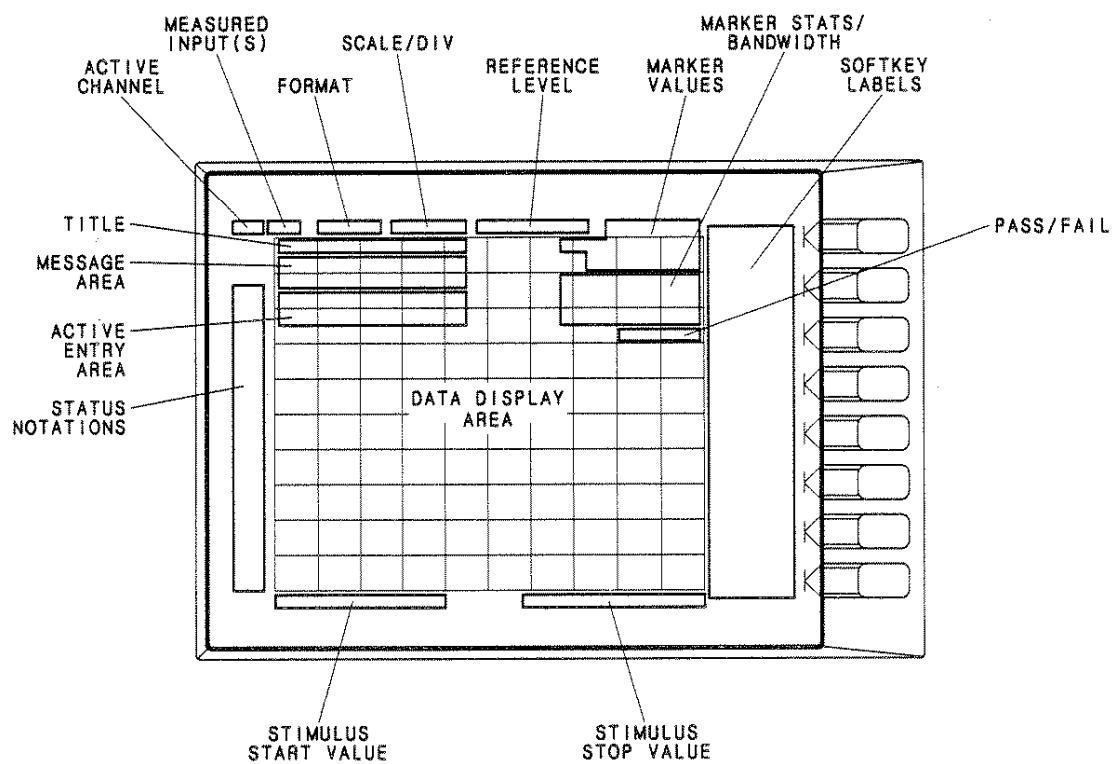

Figure 2-2. CRT Display (Single Channel, Cartesian Format)
2. CRT display. This is used for display of data traces, measurement annotation, softkey labels, and other information. The display is divided into specific information areas, illustrated in Figure 2-2.
The CRT displays the grid on which the measurement data is plotted, the currently selected measurement traces, and other information describing the measurement. Figure 2-2 illustrates the locations of the different CRT information labels, described below.
In addition to the full-screen display shown in Figure 2-2, a split display is available, as described under [DISPLAY] Key, *Display More Menu* in Chapter 4. In this case, information labels are provided for each half of the display.